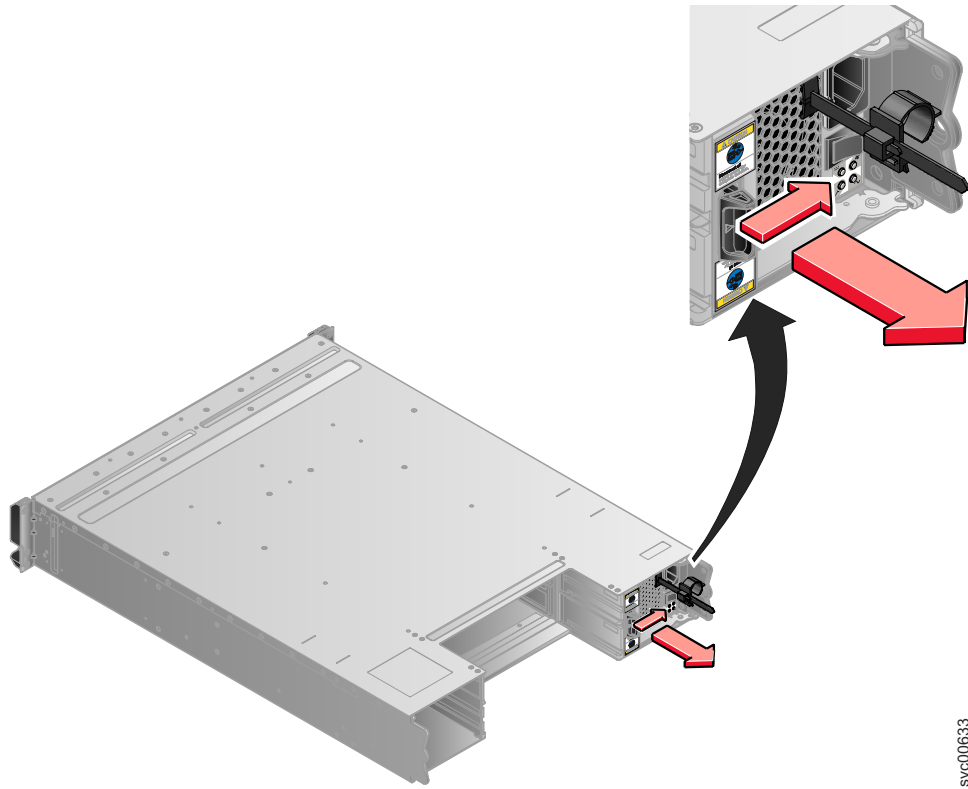

Figure 58. Directions for lifting the handle on the power supply unit
- a. Depress the black locking catch from the side with the colored sticker as shown in Figure 58 on page 236.